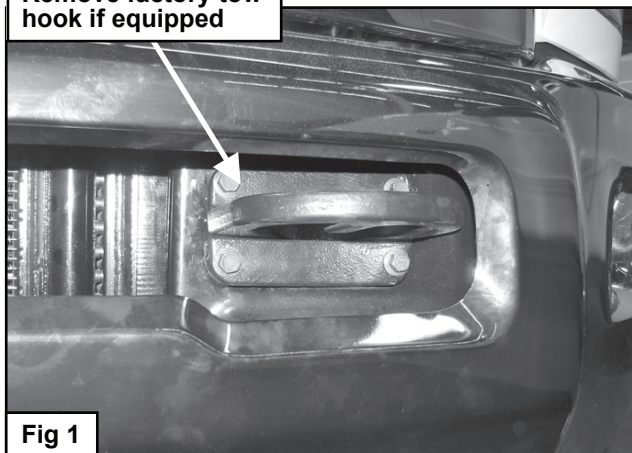
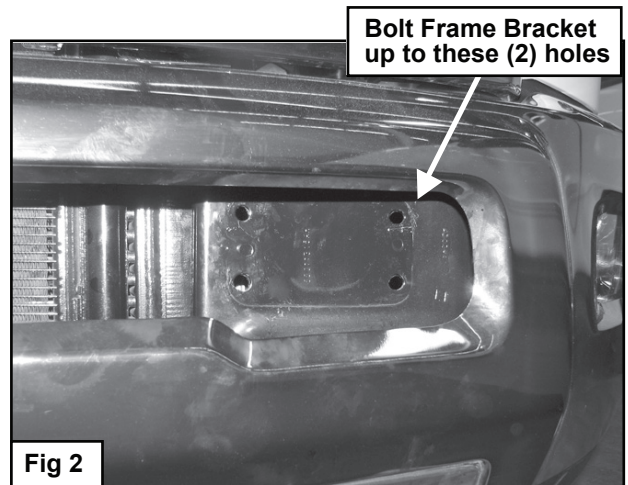

Fig 1
Fig 2
Starting at the front of the vehicle, determine if the truck is equipped with tow hooks, (Fig 1).
a. Remove the (4) hex bolts attaching the tow hook to the frame, (Fig 1), and remove the tow hook, (Fig 2).